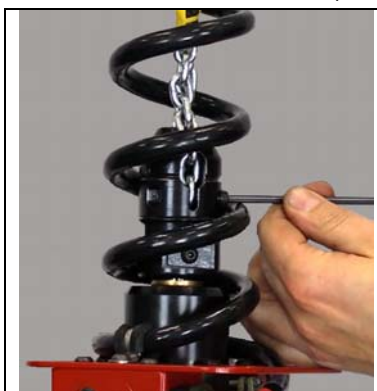

Figure 4-17
Step 32. Next, the last link of the SDS chain is installed into the bottom slot of the chain nest. The chain must be kept parallel with no twists. The bolt is installed through the last link of the SDS and into the chain nest. (Refer to Figure 4-17)